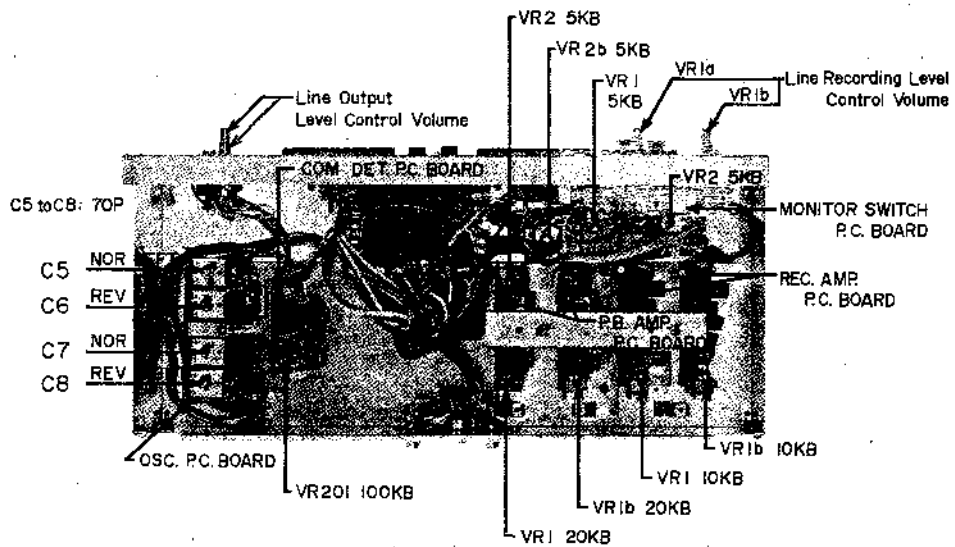

Fig. 16
(See Fig. 16)
- 2) Adjust OSC. P.C. Board semi-fixed capacitors C-5 to C-8 (70P) so that a 10 kHz signal output level is within  $\pm 1/0$  dB in relation to 1,000 Hz. (See Figs. 16 & 17)